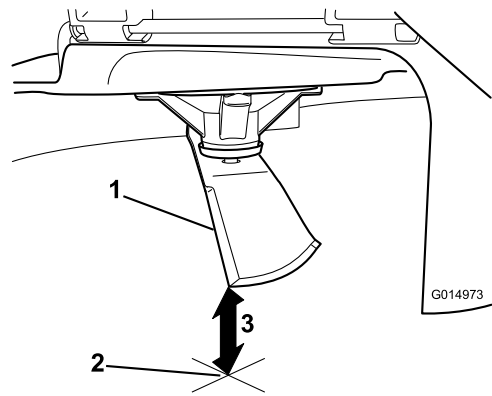

Figure 61
3. Measure from the tip of the blade to the flat surface (Figure 61).